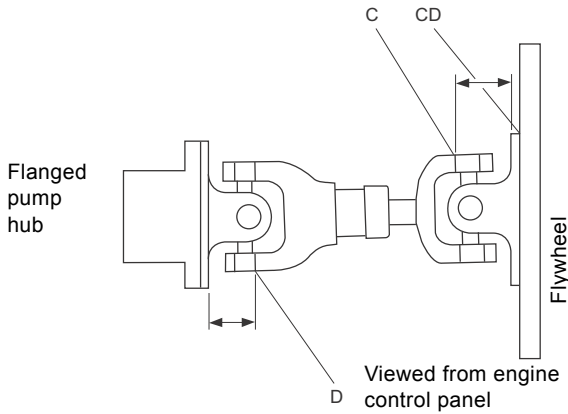

Fig. 31 Vertical alignment
1. Rotate the shaft by 90 ° so that the reference "CD" on the flywheel disc or the circumference of the drive shaft flange (against the flywheel) is in the position shown in fig. 31.
2. Measure from the rear face of the flywheel drive disc or the drive shaft flange to point C. See fig. 31. The value must be as stated in the table above.
2. Measure from the front face of the drive shaft flange on the pump end to point D. See fig. 31. This measurement must be equal to the measurement at point C ± 1 mm.